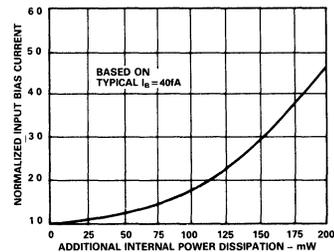

Figure 9. Input Bias Current vs. Additional Power Dissipation
- Output loading effects, which are normally ignored, can cause a significant increase in chip temperature and therefore bias current. For example, a 2kΩ load driven at 10V at the output will cause at least an additional 25mW dissipation in the output stage (and some in other stages) over the typical 24mW, thereby at least doubling the effects of self-heating. The results of this form of additional power dissipation are demonstrated in Figure 9, which shows normalized input bias current versus additional power dissipated. Therefore, although many dc performance parameters are specified driving a 2kΩ load, to reduce this additional dissipation, we recommend restricting the load resistance to be at least 10kΩ.